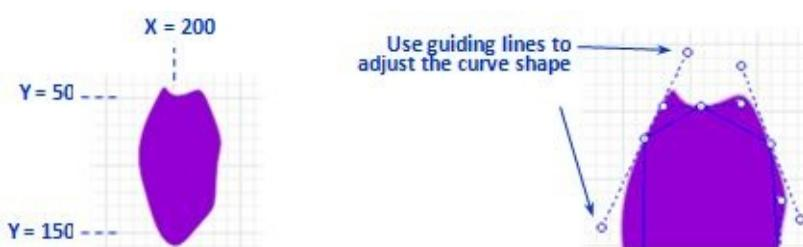

Figure 12.44 A flower petal
11. Draw gold and red circles with the center at $(200,200)$ as shown in Figure 12.44. Send them back so that they appear below the petal.